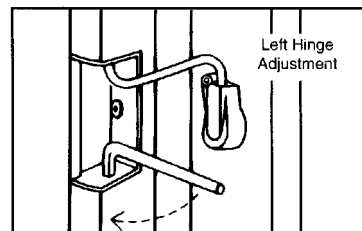
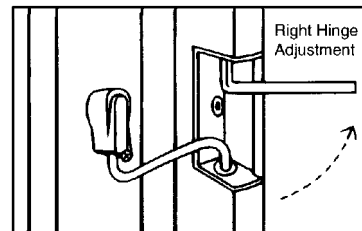

FIGURE 7
FIGURE 8
3. Open door to approximately 45° to align bottom door pin with mounting hole in bottom plate (B). Swing door open or closed to drop into proper position.
5. For left hand door adjustment, (see Figure 7). For right hand door adjustment, see Figure 8.